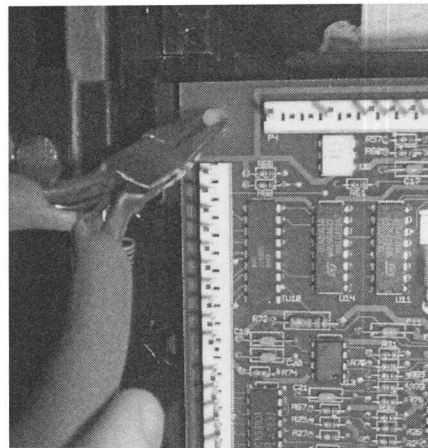

Figure 2.
3. Using the needle nose pliers, simply pinch the four standoffs that the VMC is mounted on and remove the VMC from the machine. Refer to Figure 2.